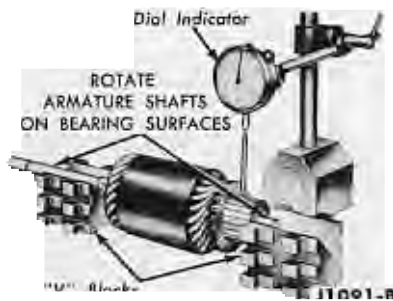

FIG. 10—Commutator Runout Check
4. Check the commutator for run-out (Fig. 10). Inspect the armature shaft and the two bearings for scoring and excessive wear. On a starter with needle bearings apply a small